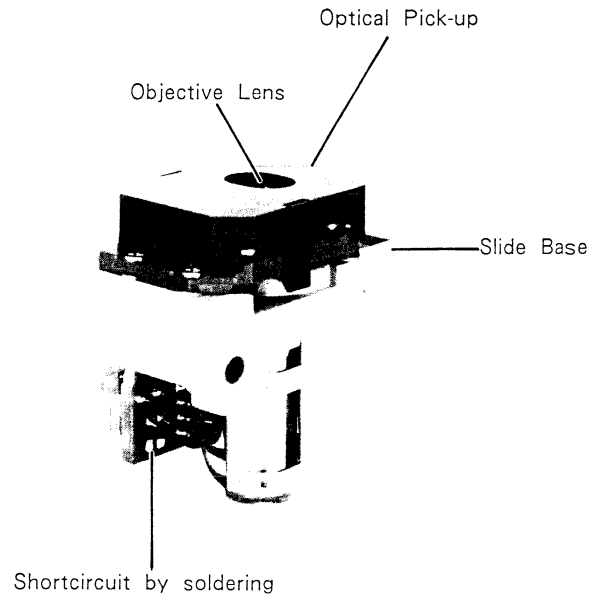

Figure 5
- ① Perform repair with ground ring on the hands and a conductive gum mat.
- ② Grasp the slide base when handling.
- ③ When removing the pickup arm shortcircuit by soldering as shown in the Figure 5 below and then remove the connector.
- ④ When mounting the pickup arm, after inserting the connector, remove the soldered shortcircuiting.